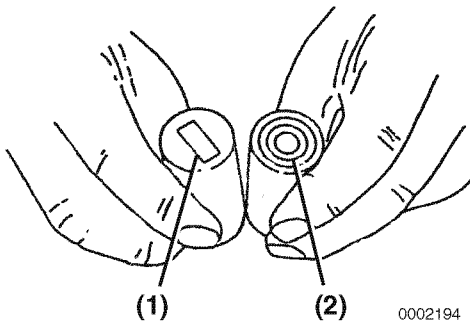

Figure 6-71
1. Inspect the tappet contact surfaces for abnormal wear (**Figure 6-71, (1)**). Normal wear will be even as shown in (**Figure 6-71, (2)**). Slight surface defects can be corrected using an oilstone.